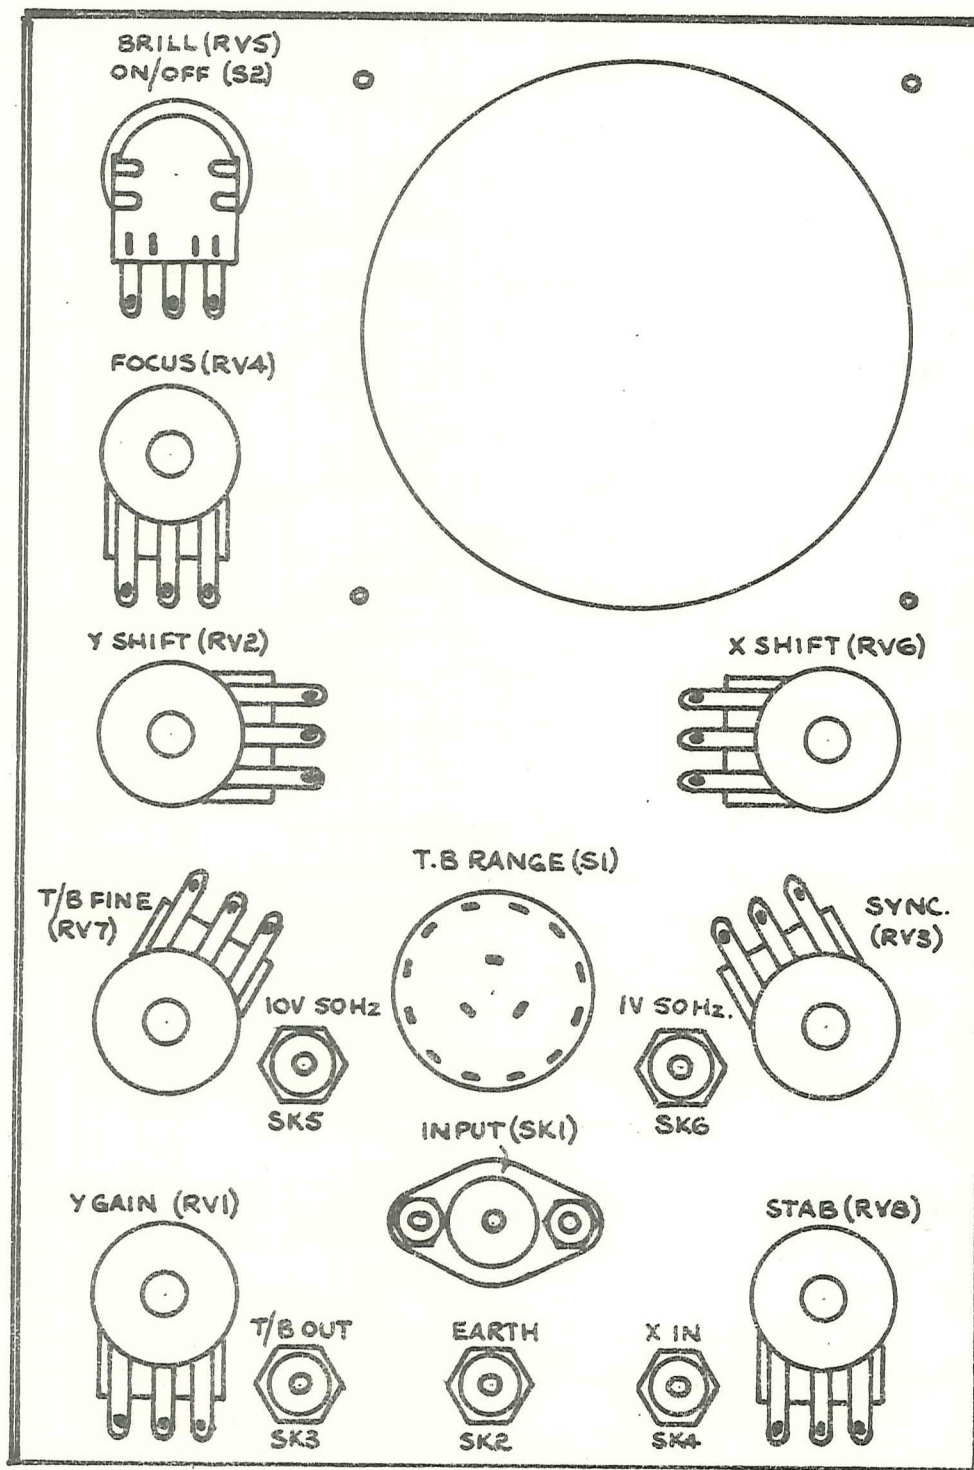

FIG. 6. FRONT PANEL REAR.
3. Diagrams Fig. 6, 7 and 8
NOTE 1 Some coaxial "INPUT" sockets now supplied have 2 connecting tags at the rear instead of only one (as shown in Fig. 6). If your socket is of the 2-tag type, the outermost of these tags should be connected to the "EARTH" socket using a short length of insulated wire.